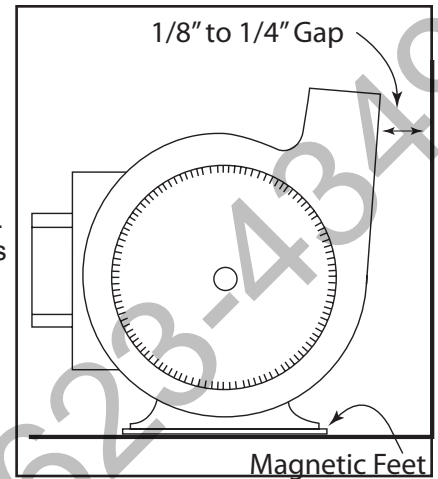

Fig 1. Side View
4. Pull the fan housing slightly away from the metal back wall (1/8" to 1/4") of the appliance. The magnetic feet will hold the housing in place. (See Fig. 1)